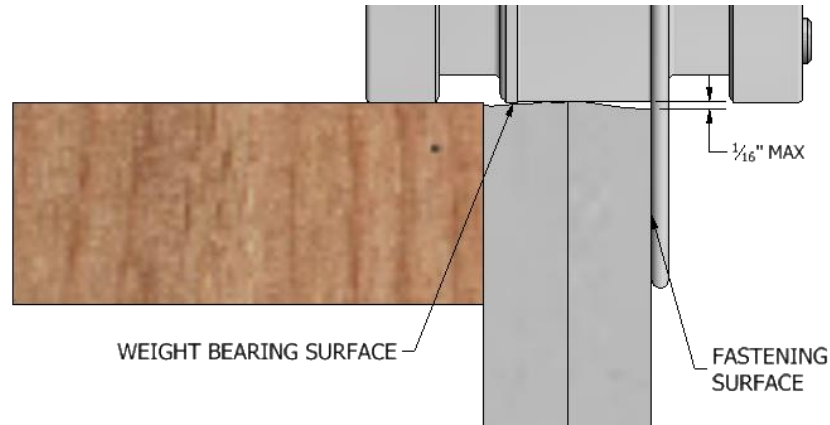

Figure 2: Acceptable Condition (flatness)
- B) The weight bearing surface that the sill sits on must be flat to a 1/16" and level to 1/16" to be considered fully supported. (See Figure 2)